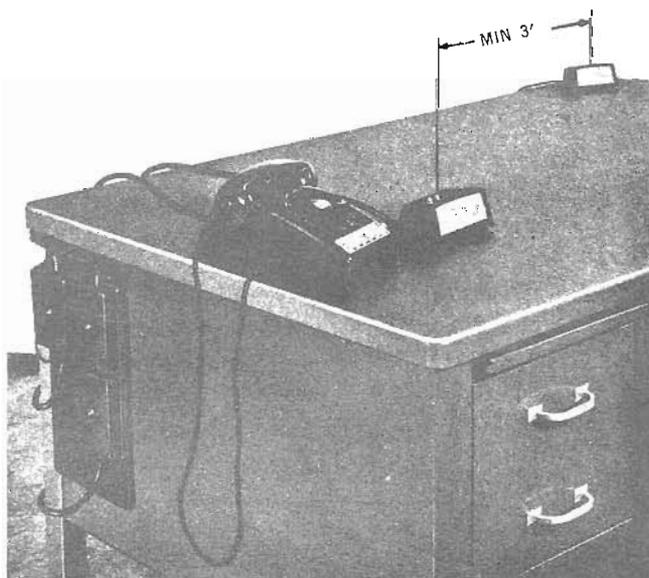

Fig. 2 — General Location of Speakerphone System 1A. Components with Key Telephone Set and 656A Transmitter
2.05 It is recommended that the 656A transmitter (Fig. 2) be installed as follows: